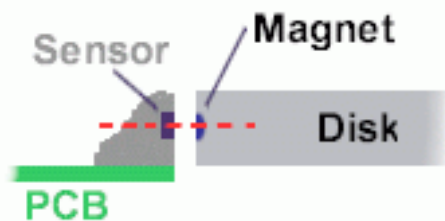

Figure 6 Ensure correct alignment of magnet disk and sensor.
- Take care that the magnets in the disk are approximately in the same height as the sensor, see figure 6.